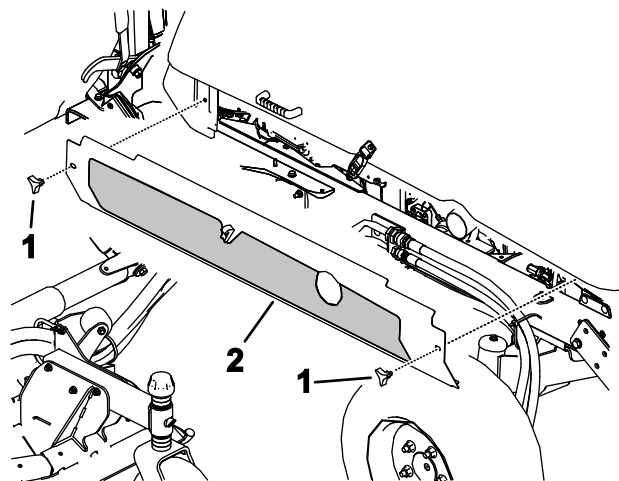

Figure 80
- Loosen the knobs and remove both side shrouds (Figure 80).
5. Install the side shrouds (Figure 80).